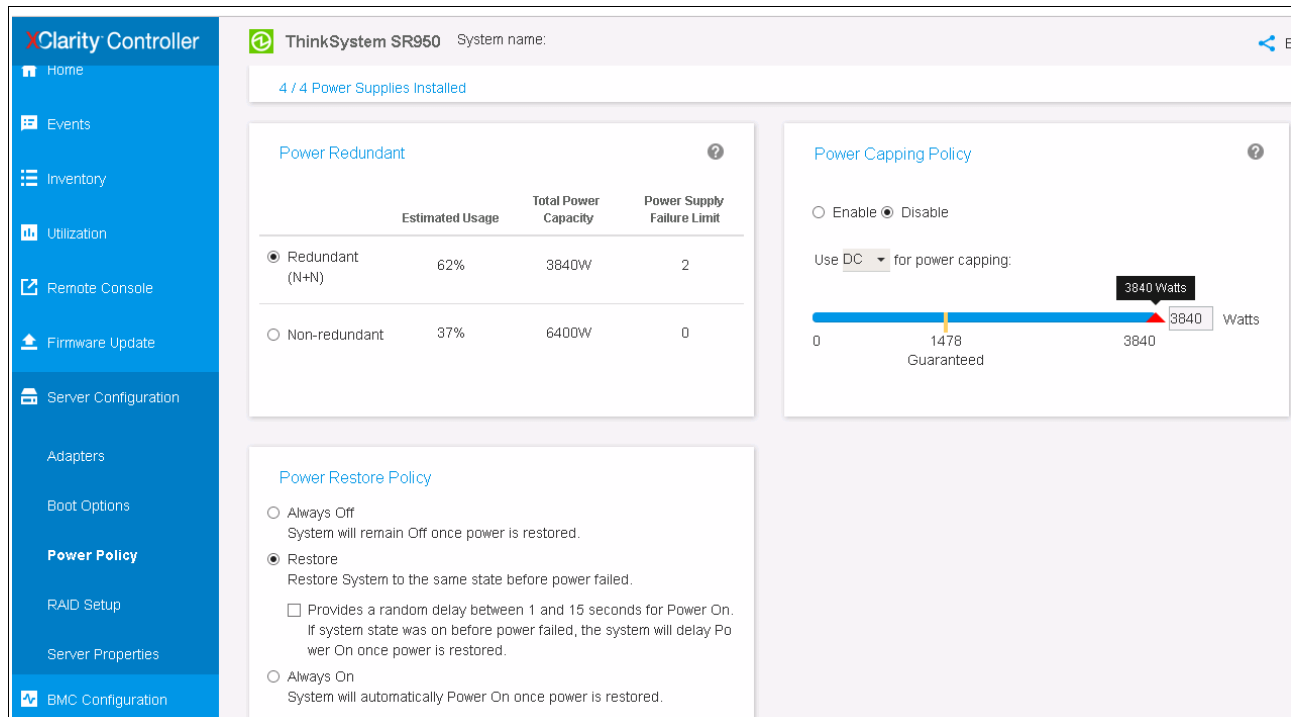

Figure 5-34 XCC power policy page
- Connect to the XCC interface as described in 5.2.1, “Accessing XCC” on page 142. Access the Server Power Policy page by selecting **Server Configuration** → **Power Policy** as shown in Figure 5-34.